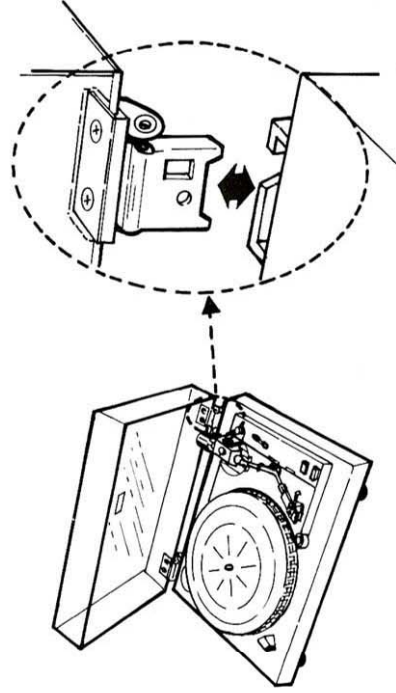

Fig. 2
2. Since tone arm adjustments are necessary, pull up the dust cover and remove it from the unit temporarily. After adjustments have been completed, reinstall the dust cover on the unit (Fig. 2).